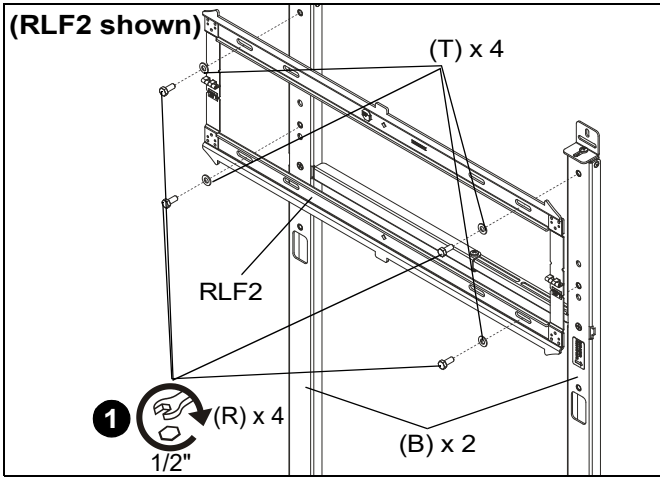

Figure 16
1. **(For RMF2/RLF2/RXF2)** Use four 1/4-20 x 1/2" hex head cap screws (R) and four 5/16 washers (T) to secure main assembly of RLF2 onto top uprights (B). (See Figure 16)